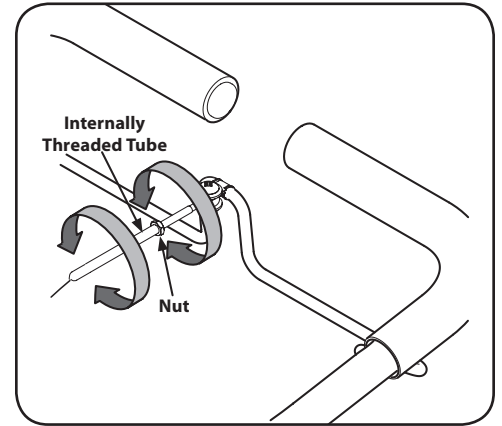

Figure 3-8
6. Carefully engage the clutch by lifting the clutch control bail against the handle. The wheels should spin. If the wheels do not spin with the tiller in forward, adjust by unthreading the tube at the end of the cable a few turns counter-clockwise, when standing in the operator's position. See Figure 3-8.